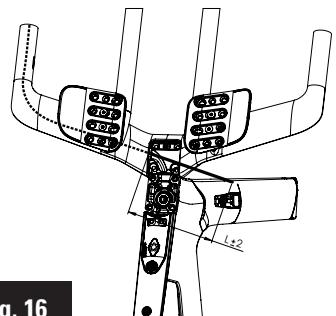

Fig. 16
- 1- Feed the cable housing (A) into your handlebars and position your handlebars in position on the stem.
- 2- Cut the cable housing (A) to length (Fig. 16):